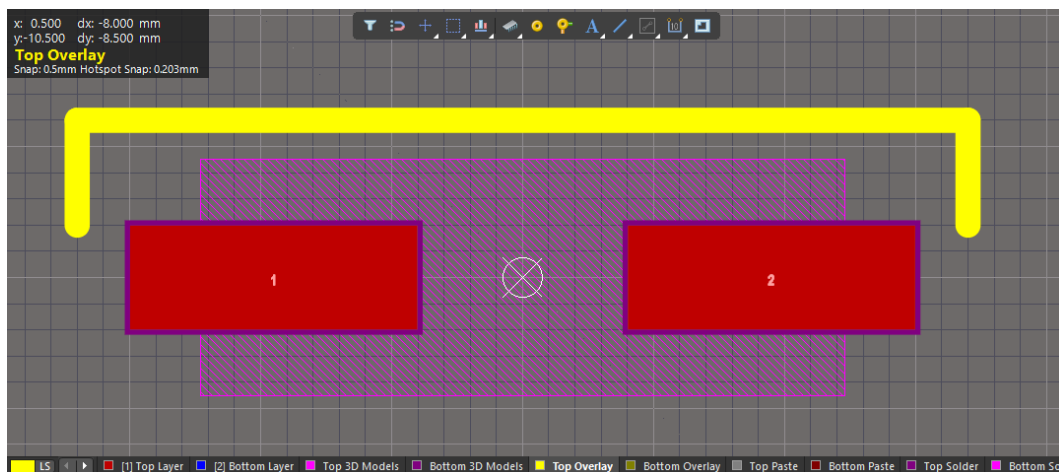

Figure 43. The top portion of the Overlay added to the component
69. Right-click to terminate the line and right-click again to terminate the command. The line should now be similar to what is shown in Figure 43.